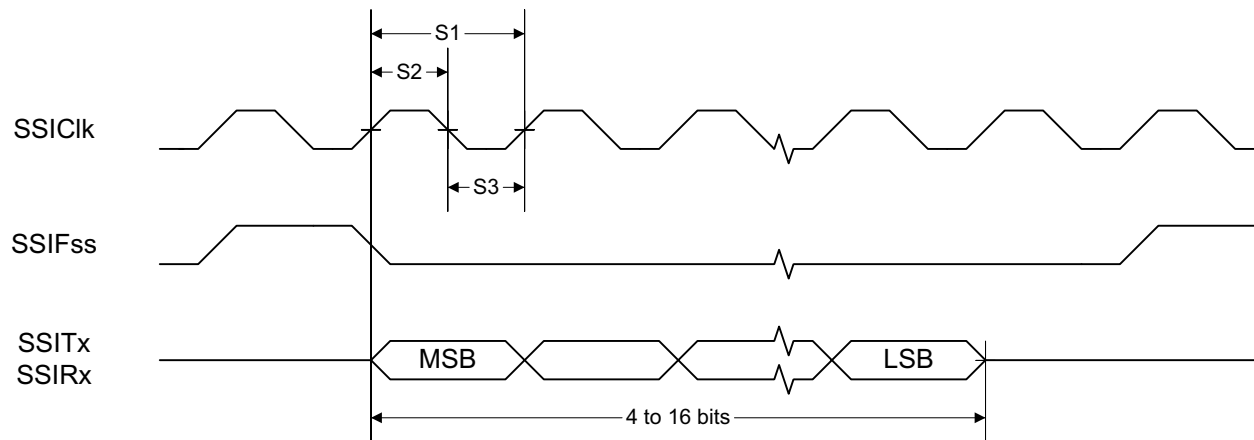
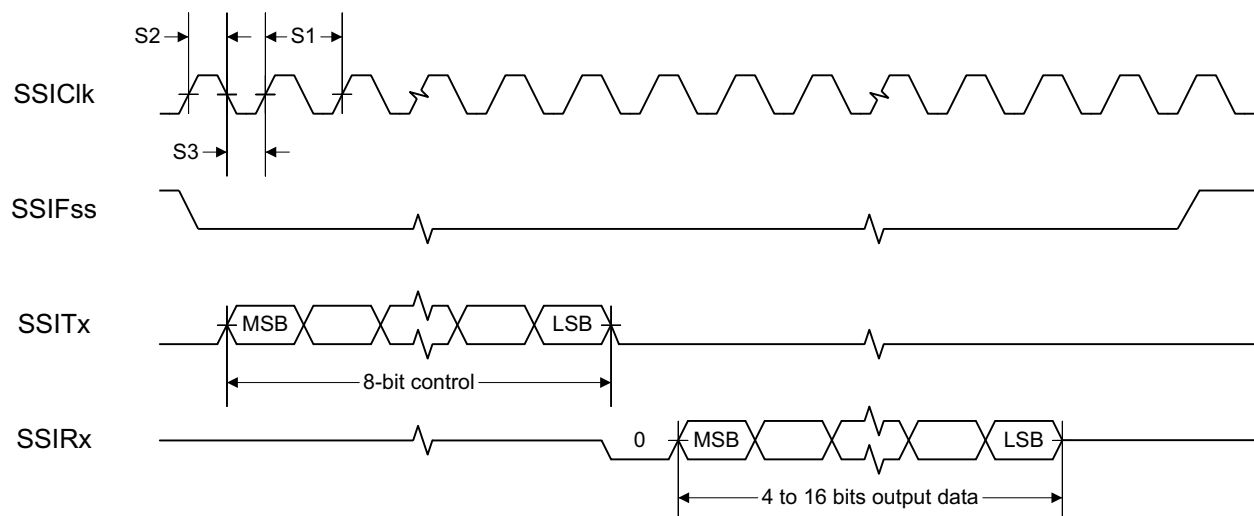
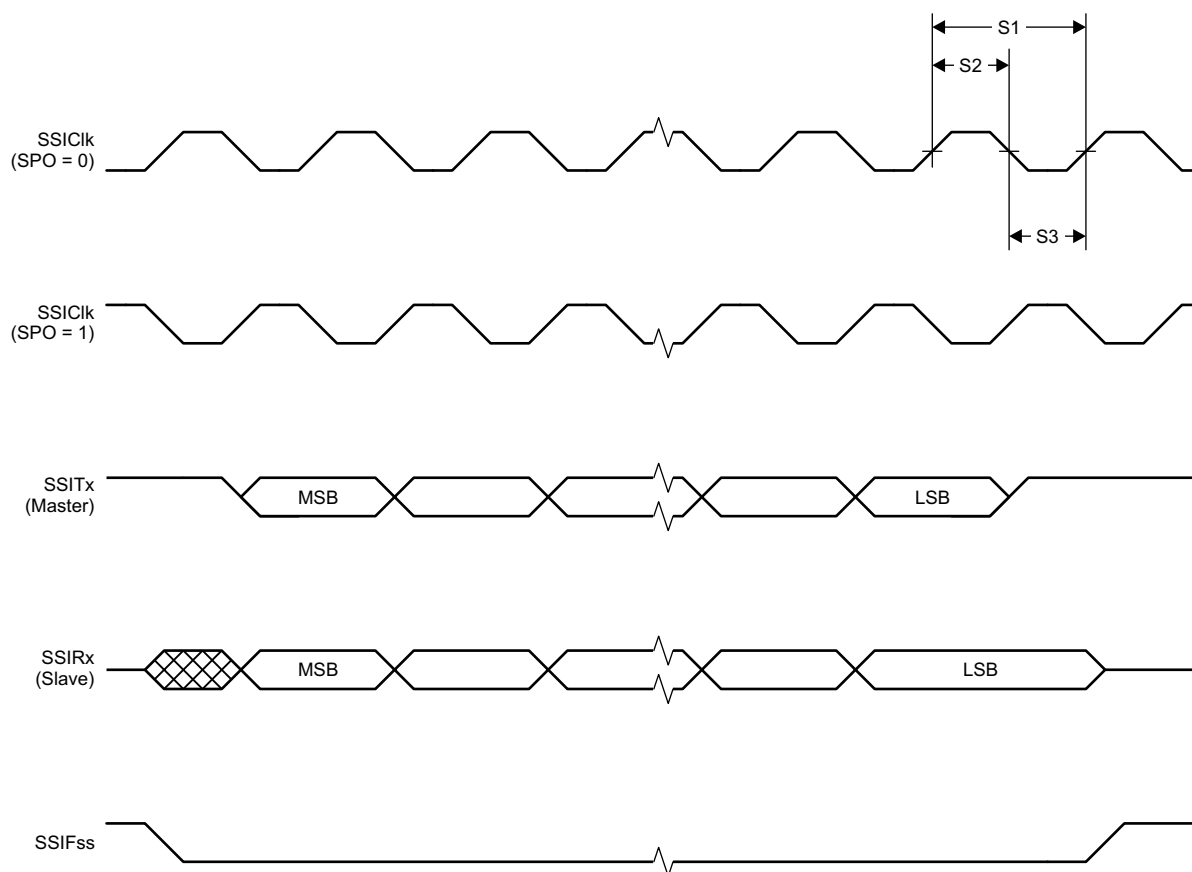

Figure 5-1. SSI Timing for TI Frame Format (FRF = 01), Single Transfer Timing Measurement
Figure 5-2. SSI Timing for MICROWIRE Frame Format (FRF = 10), Single Transfer
Figure 5-3. SSI Timing for SPI Frame Format (FRF = 00), With SPH = 1
(1) When using the TI-provided Power driver, the SSI system clock is always 48 MHz.
(2) Refer to SSI timing diagrams Figure 5-1, Figure 5-2, and Figure 5-3.